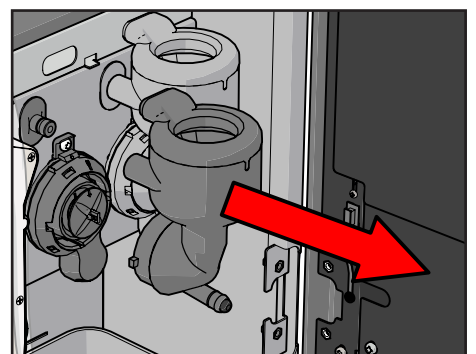

Figure 52. Remove mixer house
7. Pull the mixer house and the suction ring forward so they detach from the mixer plate. (see Figure 52).